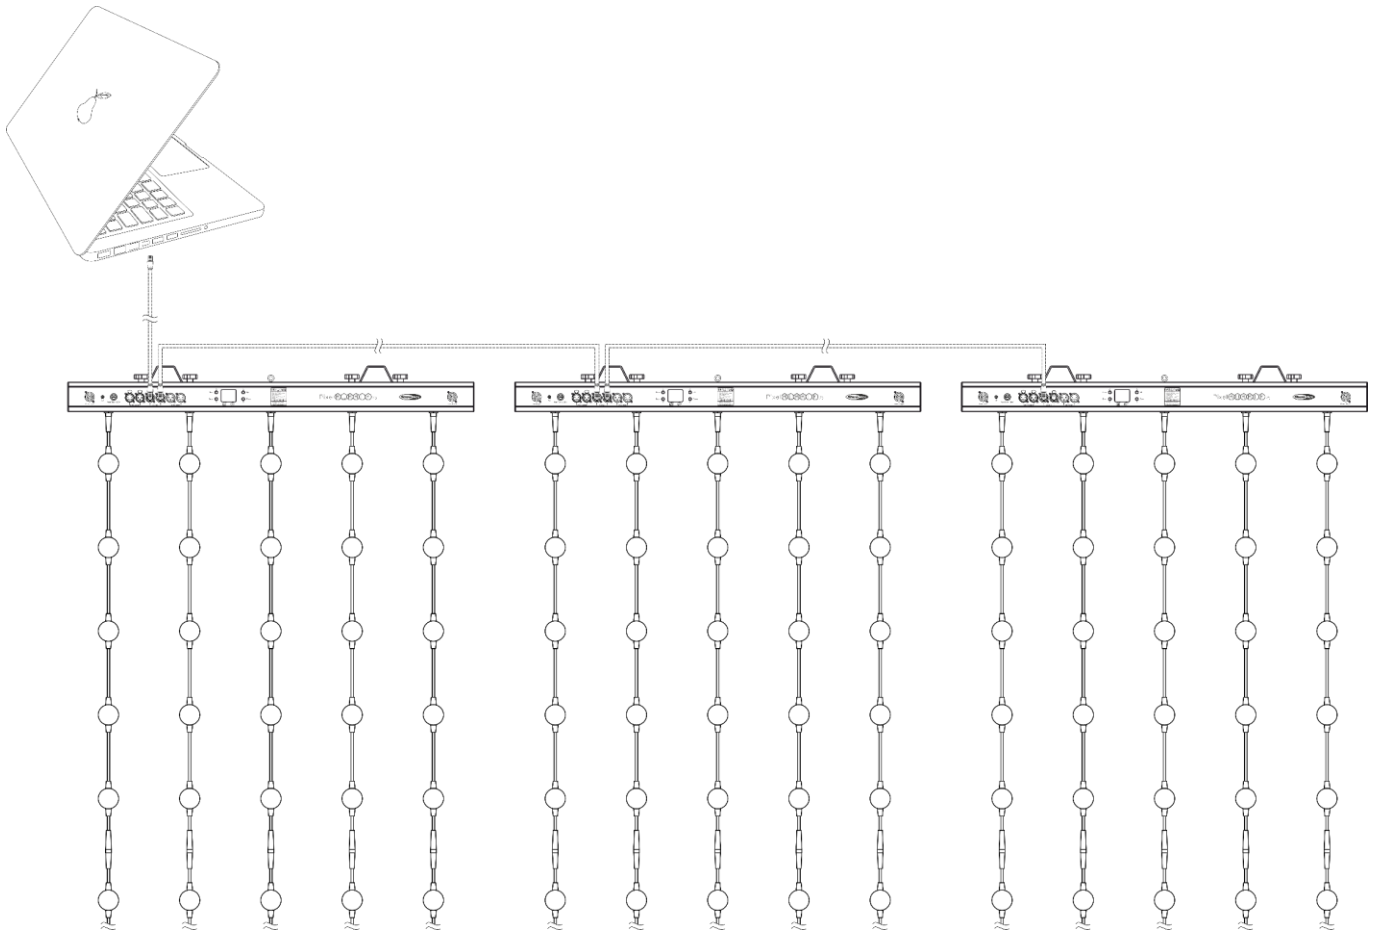

Fig. 10
- 03) Repeat step 2 to connect all devices as shown in Fig. 10.